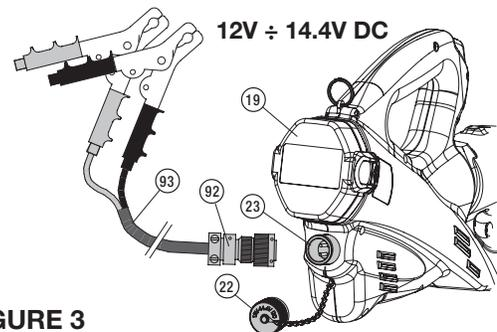

FIGURE 3
The tool can operate from an external power supply (min. 20A) using the integral socket (23). Using the special connection cable type BPLT13970DC, supplied as an optional accessory, proceed as follows: (Refer to Figure 3)
- Remove the cap (22) and connect the other end of the connection cable (93) to the socket (23) of the tool; tighten the connector (92) by turning the ring nut clockwise until it locks.
- When the work is finished, disconnect the connection cable (93) and replace the protective cap (22).